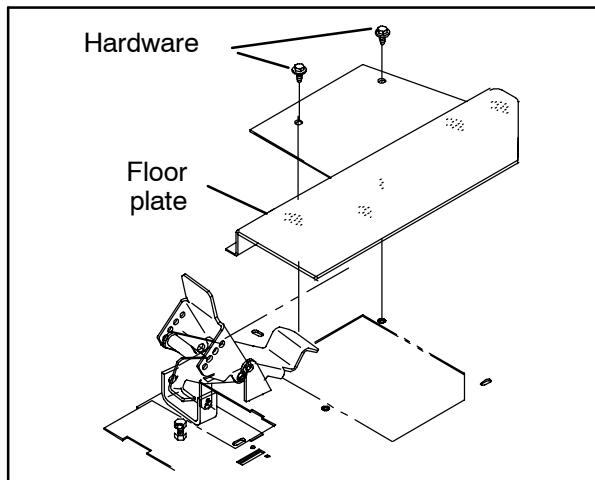

FIG. 9
- Remove the floor plate from the operator compartment. Set the floor plate and hardware aside Refer to Fig. 9.
- Reinstall the floor plate into the operator compartment. Refer to Fig. 9.